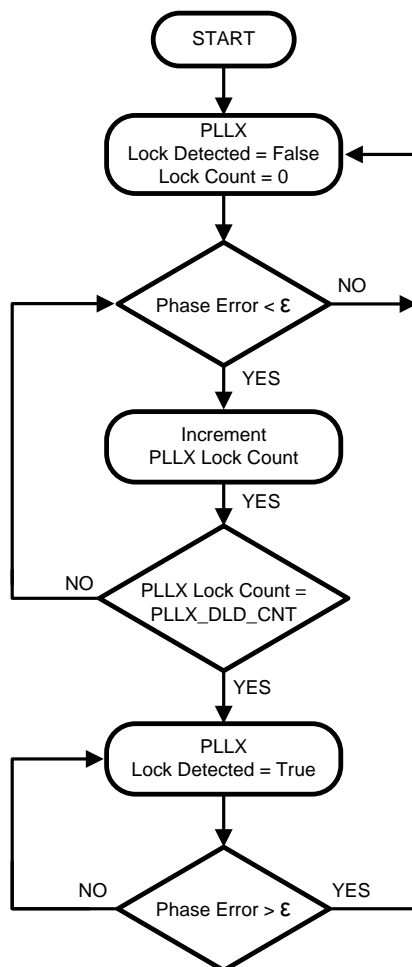

Figure 10. Digital Lock Detect Flowchart
Both PLL1 and PLL2 support digital lock detect. Digital lock detect compares the phase between the reference path (R) and the feedback path (N) of the PLL. When the time error, which is phase error, between the two signals is less than a specified window size (ϵ) a lock detect count increments. When the lock detect count reaches a user specified value lock detect is asserted true. Once digital lock detect is true, a single phase comparison outside the specified window will cause digital lock detect to be asserted false. This is illustrated in Figure 10.